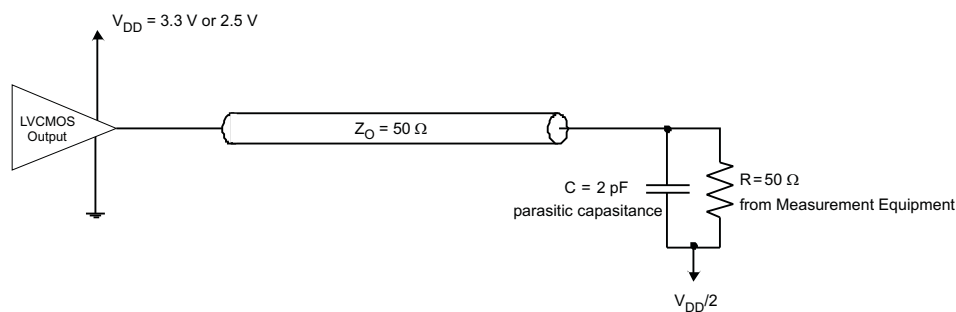

Figure 1. Test Load Circuit
(1) All typical values are at respective nominal V_{DD}. For switching characteristics, outputs are terminated to 50 Ω to V_{DD}/2 (see Figure 1).(2) For dynamic I_{DD} over frequency see Figure 8 and Figure 9.